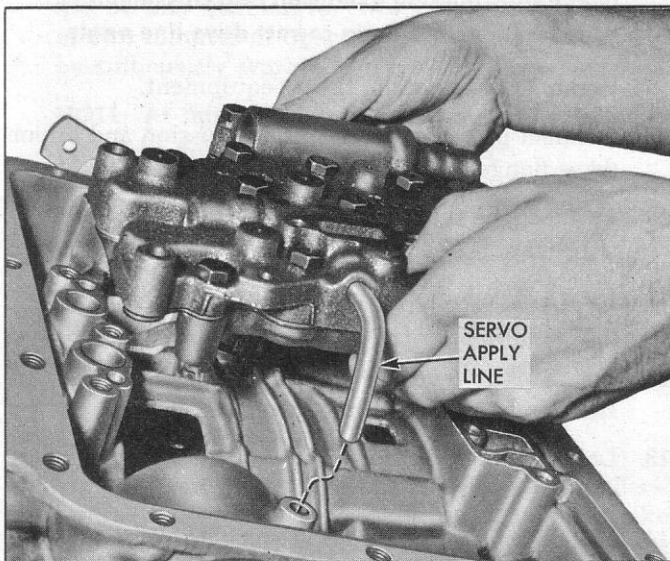

Fig. 41—Installing Valve Body
30. With transmission upside down, and manual linkage installed as previously described, and the selector lever detent roller installed, install the valve body (servo apply tube installed) and a new gasket. Carefully guide the servo apply line into its boss in the case as the valve body is set into place (fig. 41). Install six mounting bolts and range selector detent roller spring shown in Figure 18.